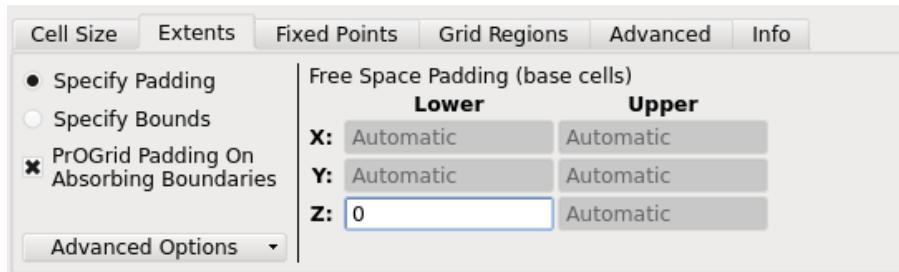

Figure 4.13: Defining free space padding in the Grid Editor
- Navigate to the EXTENTS tab (Figure 4.13). We will apply free space padding to all sides of the simulation space except the Lower Z boundary (where a PEC boundary condition was previously assigned).
- Remove all padding from the lower Z boundary by setting LOWER Z FREE SPACE PADDING (BASE CELLS) to “0” (Figure 4.13). This will cause the PEC boundary condition to lie exactly on the bottom surface of the Substrate as a ground plane.